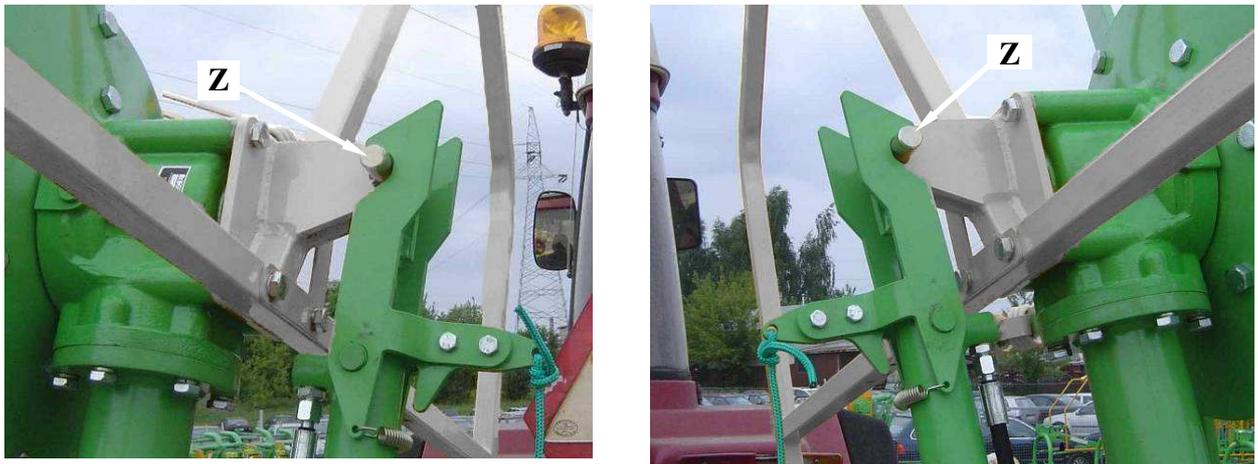

Fig. 12. Locks in transport position
- for: **P4-471C, P4-531C** - with use of two hydraulic cylinders lift up the two outer tedder rotors, so as to snap locking pawls **Z** (**Fig. 12**).